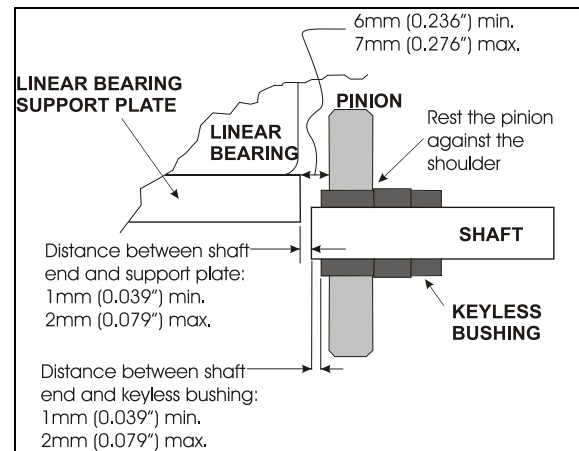

FIGURE 14: PINION AND KEYLESS BUSHING POSITIONING
3. Properly position the shaft end in relation to the linear bearing support plate (See Figure 14) and then tighten the locking collars to maintain the shaft in that position.
4. Position pinion and keyless bushing as shown on Figure 14 and tighten the keyless bushing as described in paragraph 6.4.